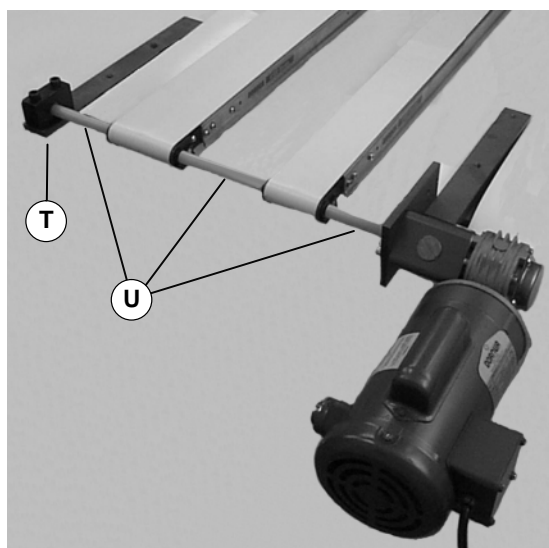

Figure 17
1. Disassemble the support (T of Figure 17) and remove the hex shaft and shaft guard sections (U).
4. Grease bearing with one (1) pump from a manual grease gun. Do not over-lubricate.
6. Re-assemble hex shaft with guards and support (T of Figure 17).
1. Disassemble support (T of Figure 17) and remove the hex shaft and shaft guard sections (U).